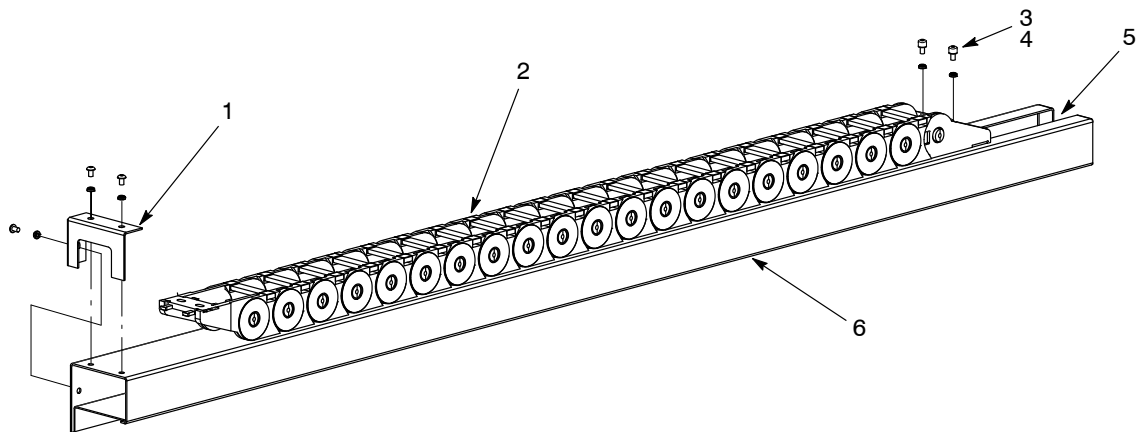

Figure 7 Installing Cables Chain
1. See Figure 7. Route the cables through the end cover assembly (1) and guide down the length of the cable track (6).